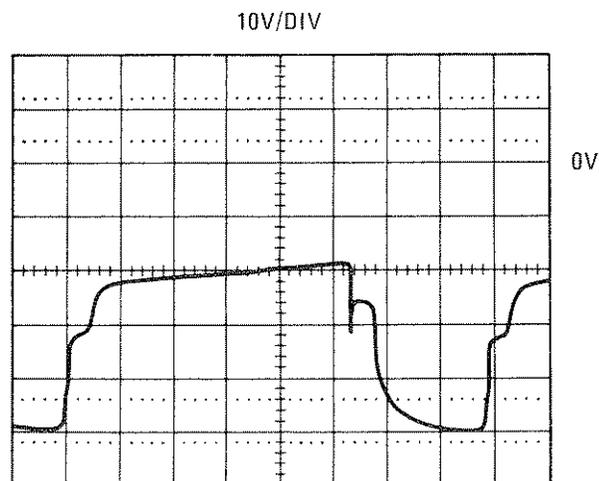

Figure 8-46. Emitter/Coil Waveform (A6P1-20)
2. Press [INSTR PRESET] to sweep the entire range of the plug-in. Check TP12 for the waveform shown in Figure 8-46. This represents the voltage (not the current) across the YO's main coil, and will give an indication as to whether current is passing through the coil. If this waveform is correct, suspect the YIG oscillator.